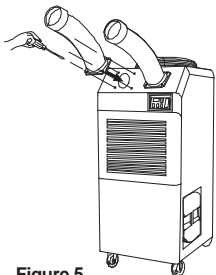

Figure 5
3. Use screws (enclosed inside of box with cool air outlet hose(s)) to install the cool air outlet hose(s) on the air conditioner as shown in Figure 5.